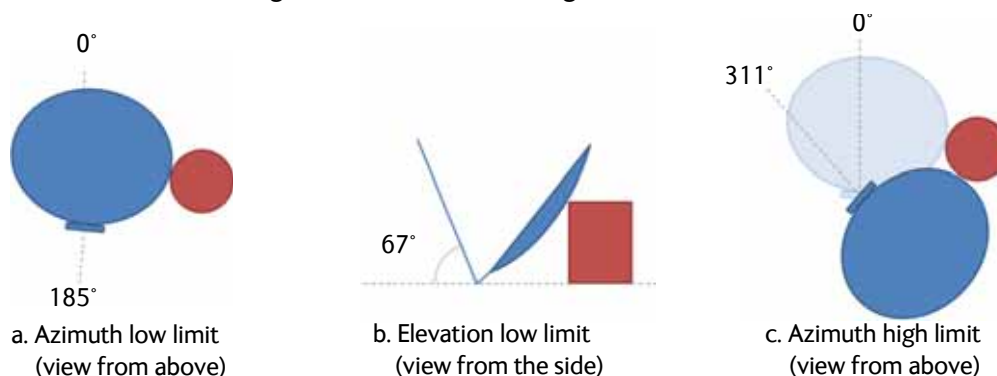

Figure 6-6: Dish blocking zones, example with cylinder-shaped blocking object
6. Define the dish blocking zones as follows: (see Figure 6-6)